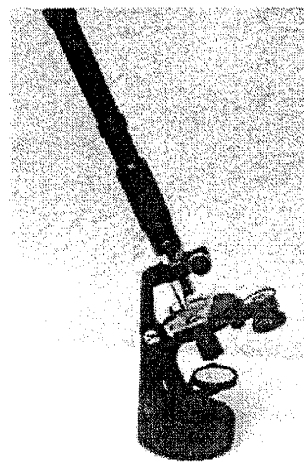

Fig. 5e Ultra Lomara with extension tube in place.
**Extension Tube.** Fig. 5e shows the microscope with the extension tube installed. The hard rubber tube is 2.50" long, threaded externally at the top and internally at the bottom. Depending on the combination of oculars and objectives, use of the extension tube can increase the magnification up to 95%. The makers of the Ultra-Lomara Mikroskop are to be commended for producing an instrument which has so many notable features in so small a package. The user will